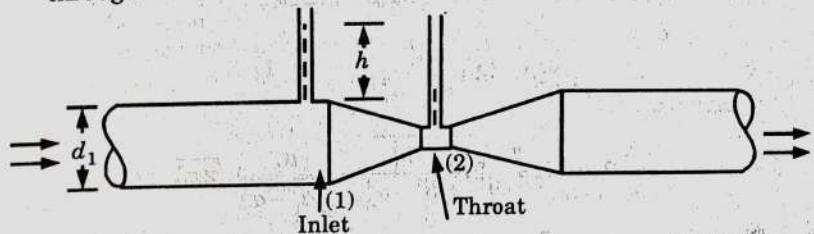

Fig. 3.13.1.
- As shown in Fig. 3.13.1, a venturimeter is fitted in a horizontal pipe through which a fluid is flowing.